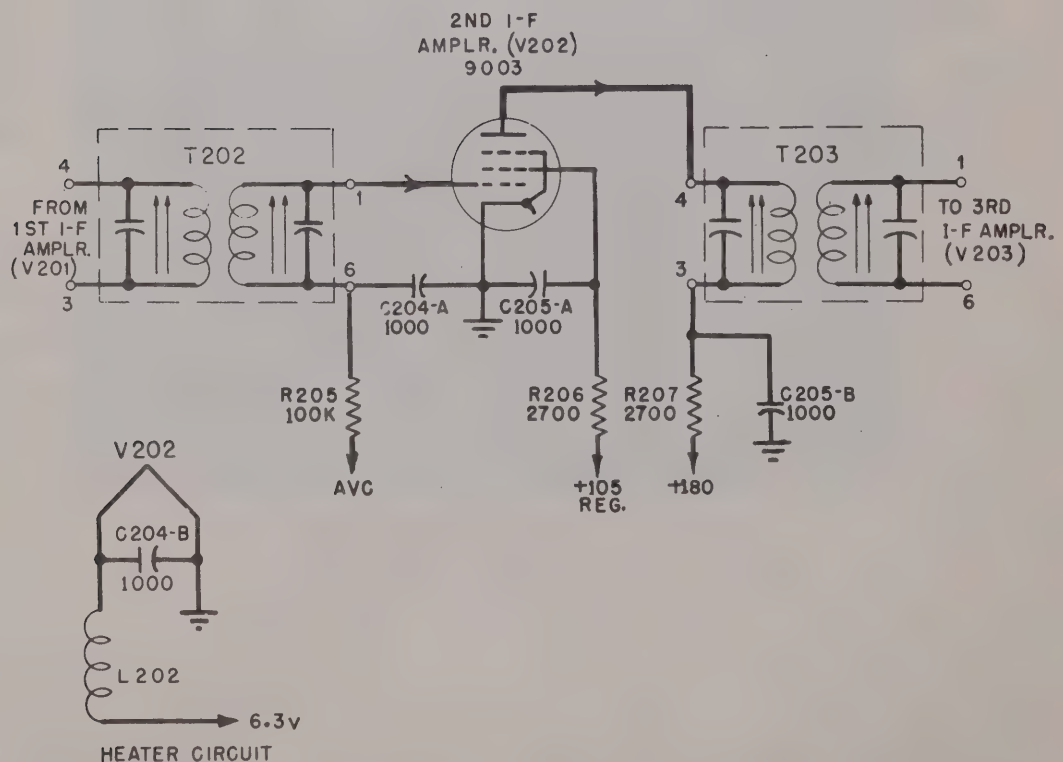

Figure 2-8. Simplified Schematic—Typical I-f Amplifier
(2) **SECOND, THIRD, FOURTH, AND FIFTH I-F AMPLIFIERS.** The simplified schematic diagram of figure 2-8 is typical of the last four i-f stages. Each amplifier utilizes a type 9003 remote cut-off pentode, with double-tuned transformers used as the inter-stage coupling device. All transformers used in the